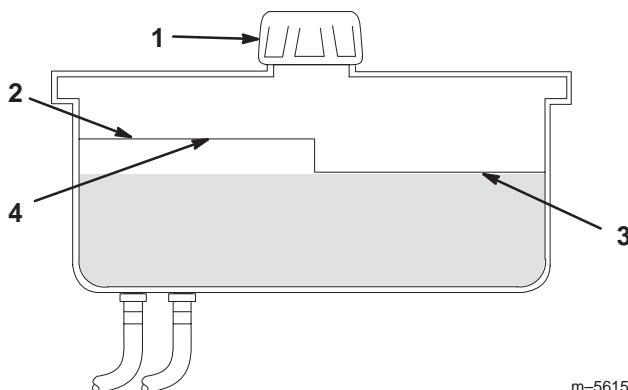

Figure 53
2. Clean area around filler neck of hydraulic tank (Fig. 53).
3. Remove the cap from the filler neck. Look inside to check if there is fluid in the reservoir (Fig. 53).
**Note:** The fluid level should be to the top of the **hot** level of the baffle, when the fluid is hot (Fig. 53).